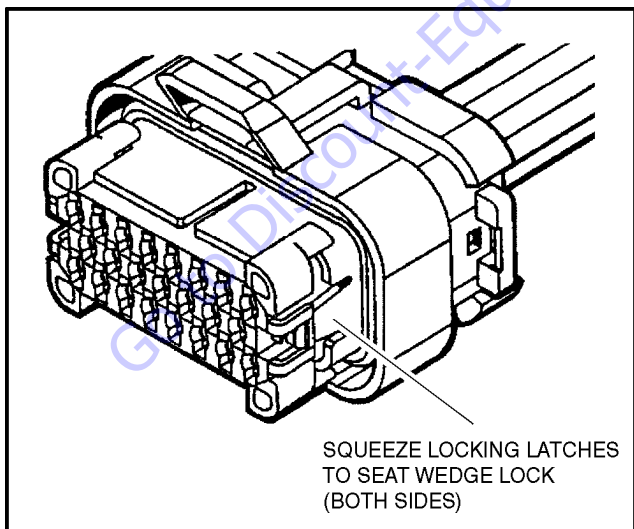

Figure 7-8. Connector Assembly Figure 3
- 3. After all required contacts have been inserted, the wedge lock must be closed to its locked position. Release the locking latches by squeezing them inward (See Figure 7-8.).